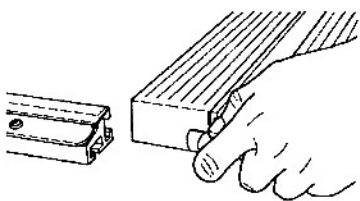

Fig. A-40
49. Slide the locking plates into the T-channels of the rails, as shown in Figs. A-40 and A-41. (For Ultra Model owners, do this for each of the two extension tables, positioning one in the middle of the rails and the other one at the end of the rails.)